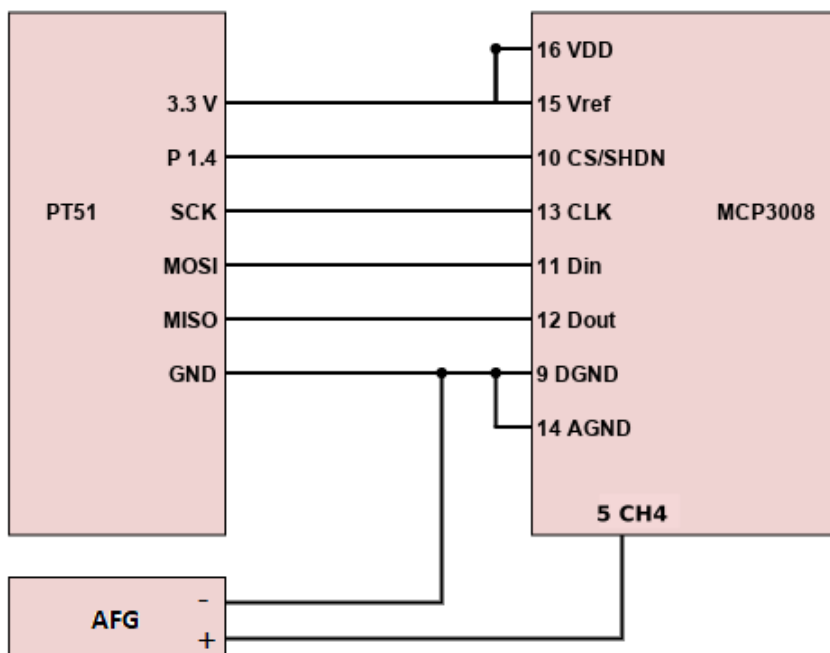

Figure 2: Pt51 interfacing with AFG and ADC
- ii) Make the connections as shown in Figure 2. Note that the output of the AFG is connected to CH4 of the ADC.